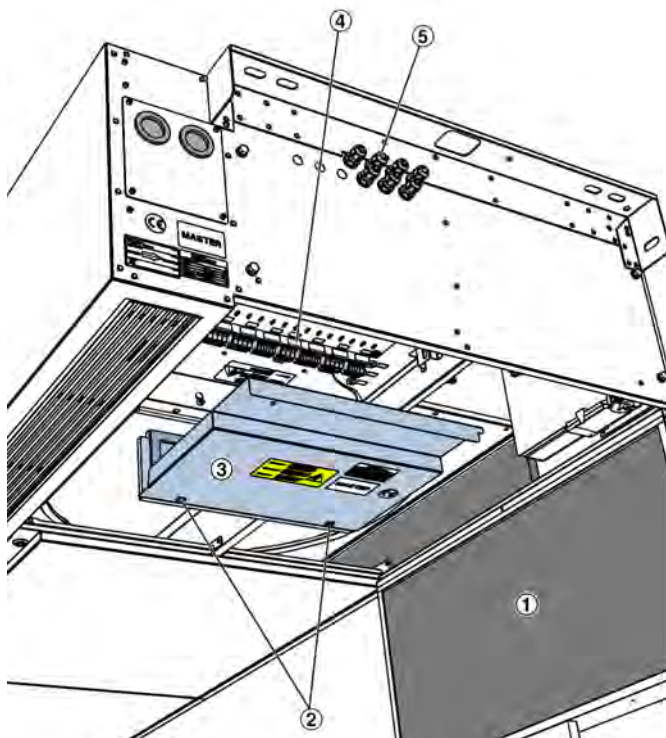

Fig. 53: Electrical connections of SCHOOLAIR-D-HV
1. ▶ Open the inspection access panel (Fig. 53 /1) of the ventilation unit ↪ 8.1.2.1 'Opening/closing the inspection access panel' on page 54 .
2. ▶ Dismantle the controls access panel (Fig. 53 /3) by loosening the quarter-turn fasteners (Fig. 53 /2) and removing the panel.
The 230 volt connection area below the connection terminals (Fig. 53 /4) must not be opened.
3. ▶ Connect the ventilation unit to the terminals (Fig. 53 /4) according to the following information. When doing so, lay the connection lines through the casing bushings (Fig. 53 /5) and lay a line reserve (approx. 30 cm) in the device.